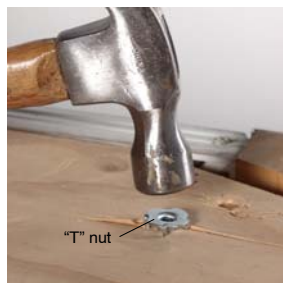

Figure 3
4. Place a 3/8" "T" Nut into the drilled out hole on the exterior side of the headboard. Tap on the "T" Nut until it is fully seated. See figure 3.